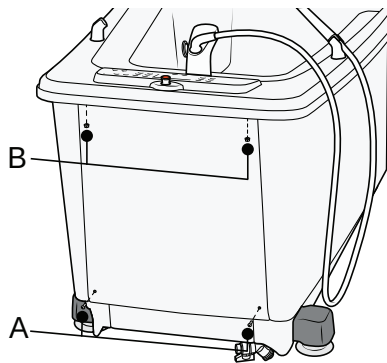

Figure 100
1. At the foot end under the rim, remove the two Allen screws (A) and two nuts (B), holding the outer service cover. See Figure 100.